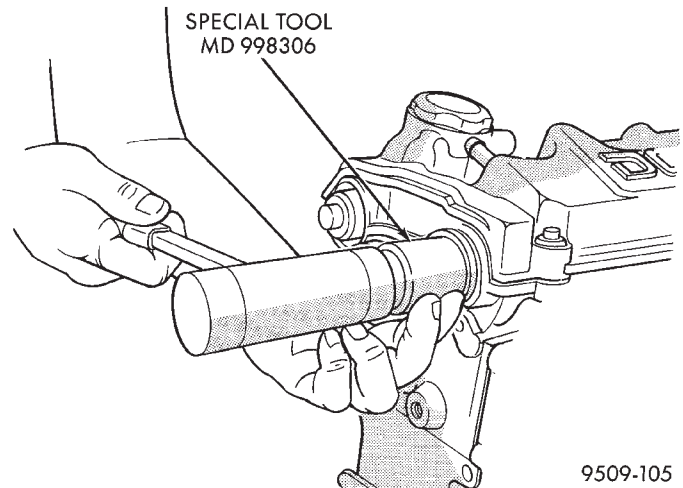

Fig. 71 Camshaft Seal—Installation
- (1) Shaft seal surface must be free of varnish, dirt or nicks. Polish with 400 grit paper if necessary.
- (2) Install camshaft seal into cylinder head using Special Tool MD-998306 until flush with head (Fig. 71).